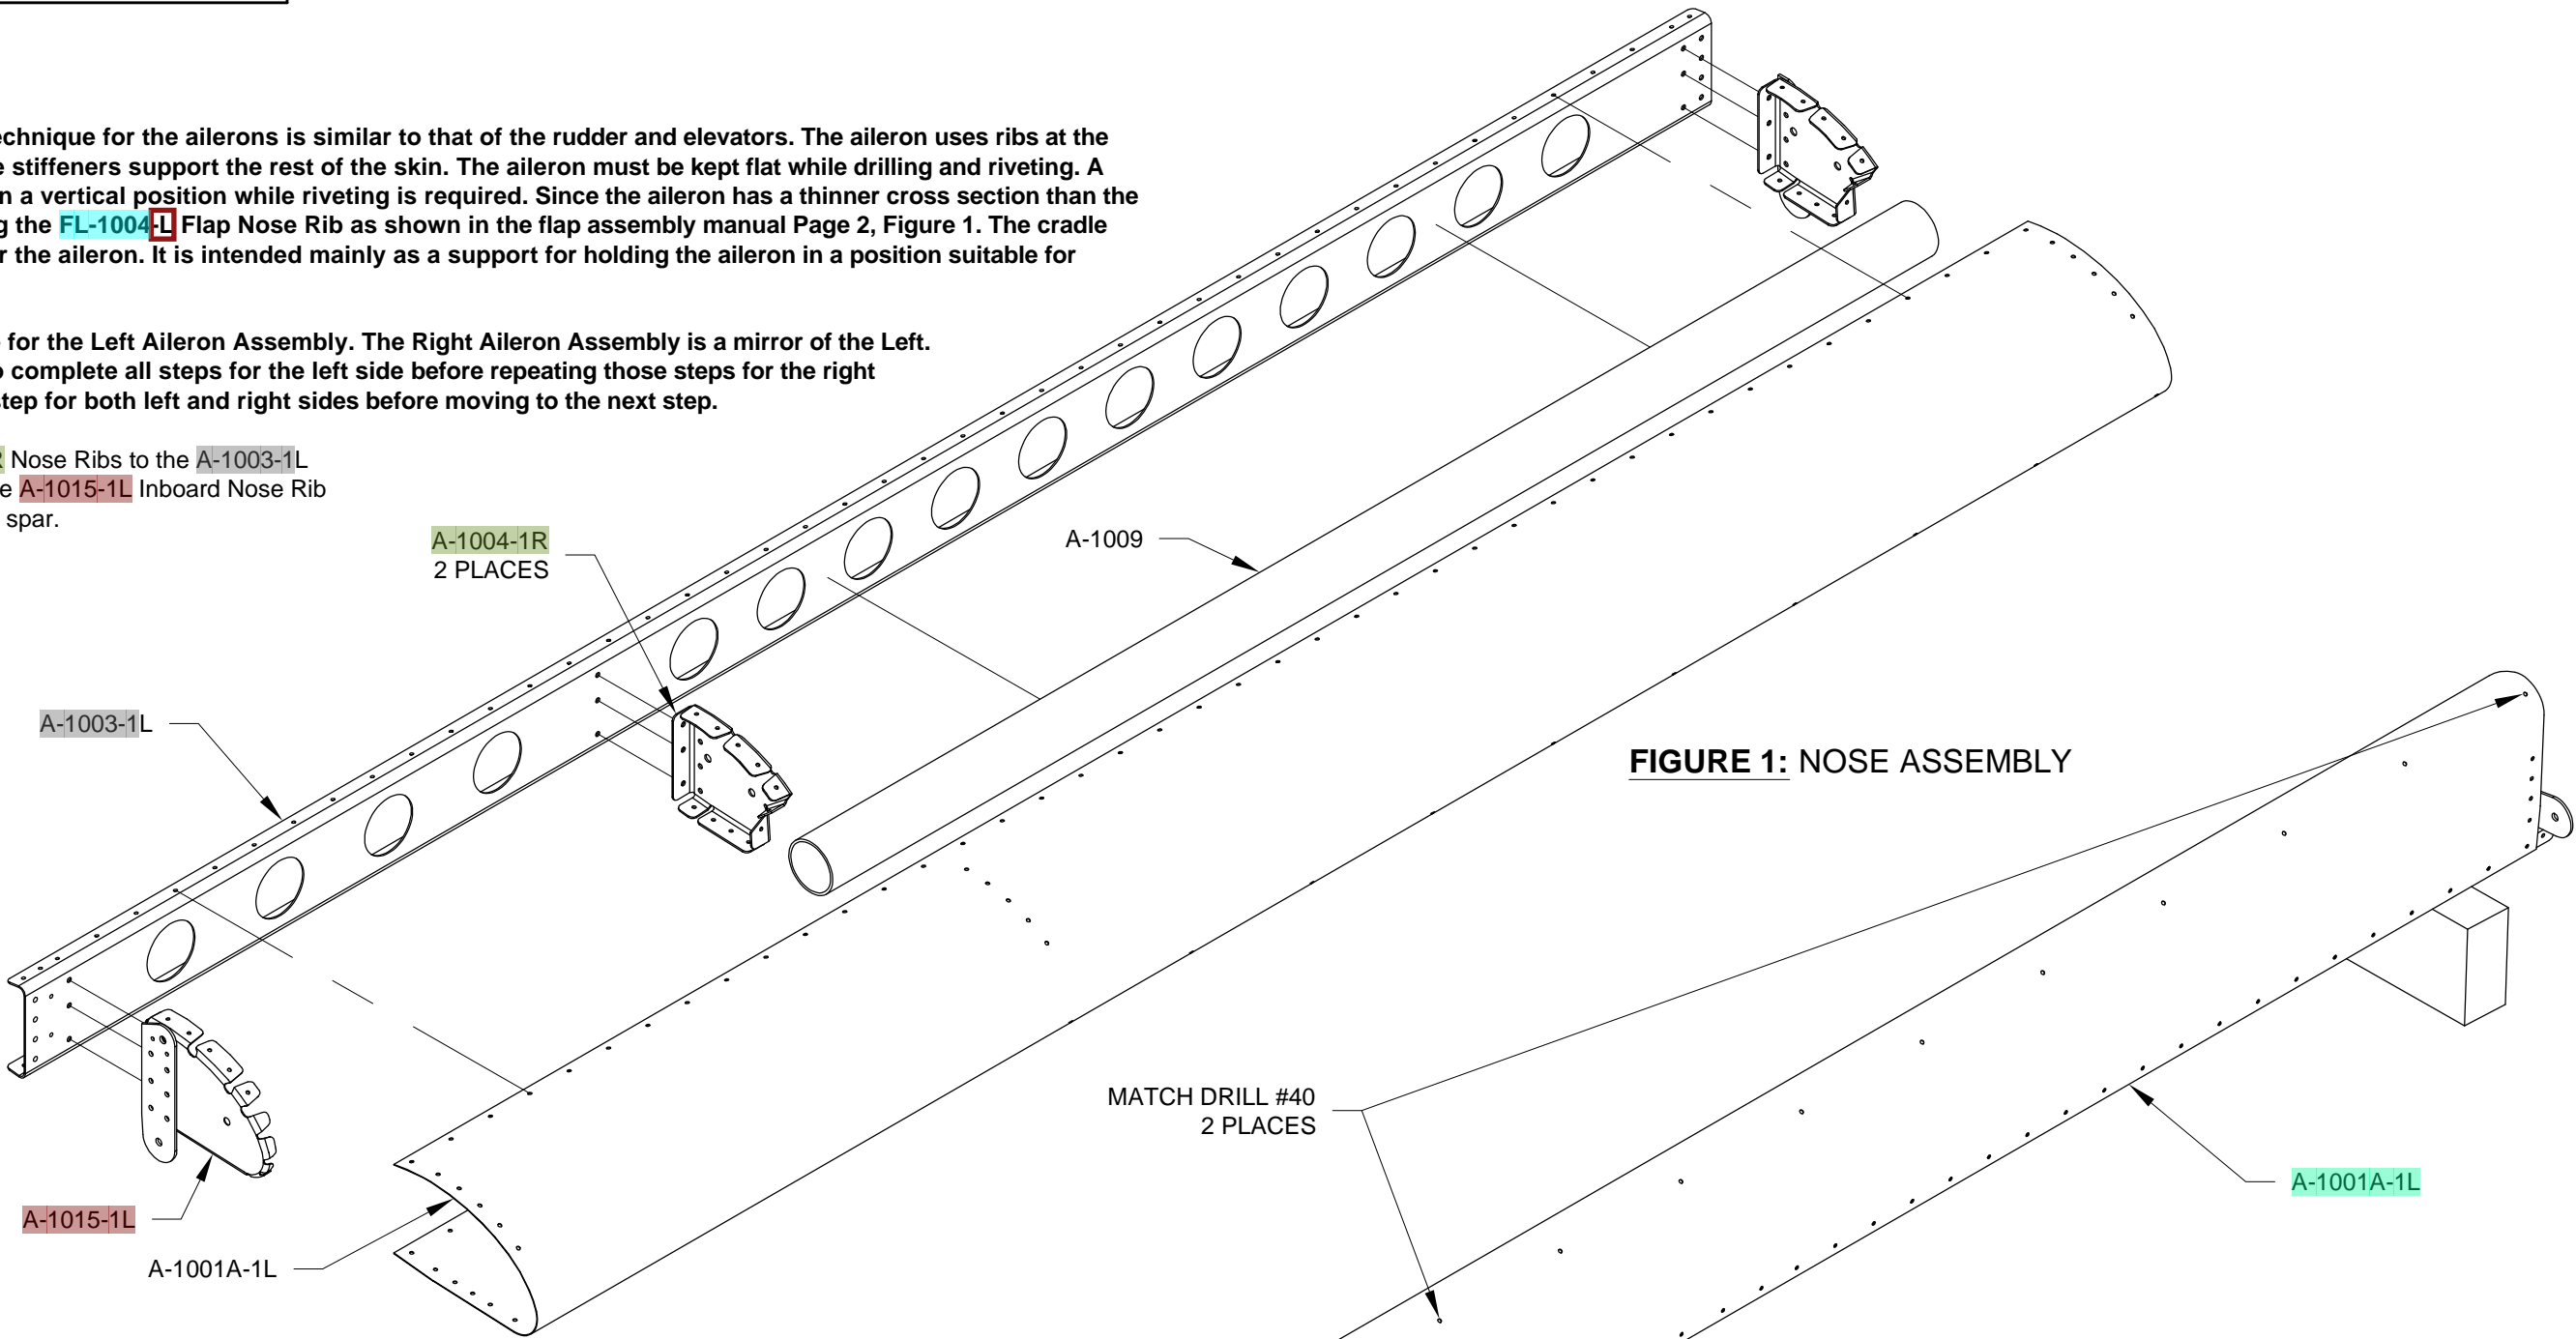

**FIGURE 5: OUTBOARD HINGE BRACKET ATTACH**
Step 8: Cleco then rivet the A-1006-1B Outboard Hinge Brackets to the A-1005A-1L and A-1005A-1R Main Ribs. Leave open the 2 bottom holes as noted in Figure 5.